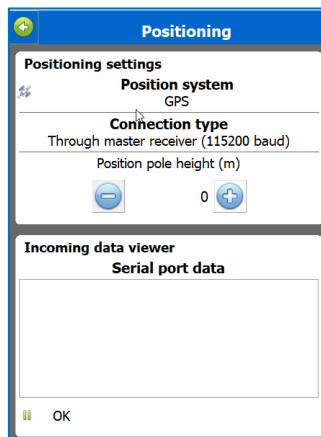

Figure 32 GPS connection through master receiver
- Through master receiver. Figure 32.